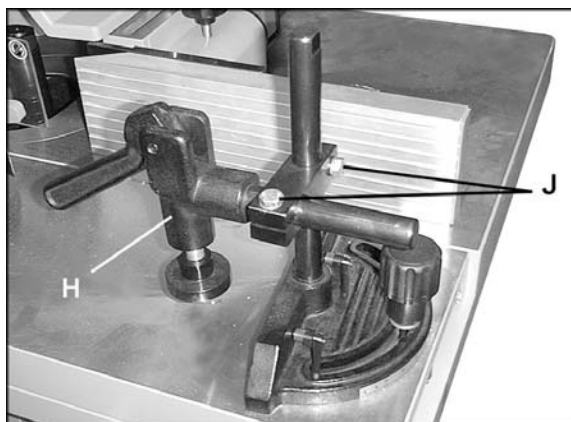

Figure 11
3. The clamp (H, Figure 11) is supplied with the miter gauge to securely hold the workpiece when shaping small pieces across the grain. The clamp should be mounted as shown, and can be adjusted by loosening the screws (J, Figure 11).